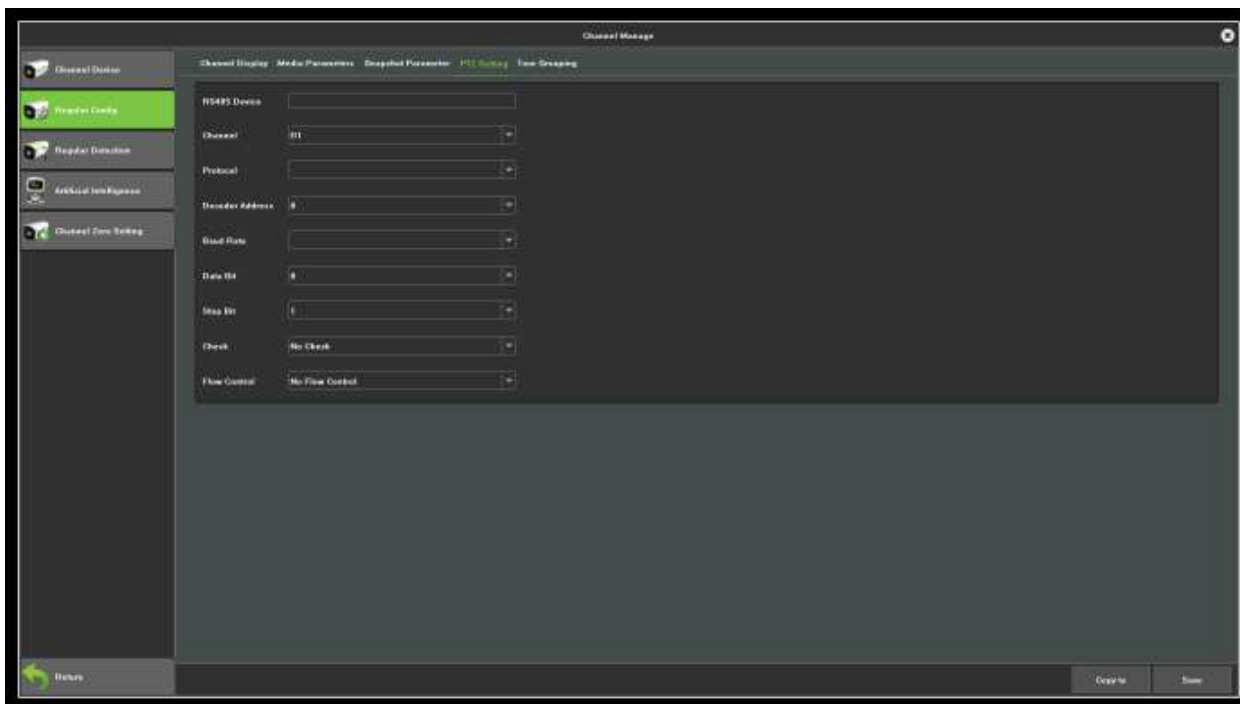

Figure 5.1 PTZ General Setting Interface
1. Enter the PTZ Setting interface, as shown in Figure 5.1, click **Channel Manage > Regular config > PTZ Setting**.